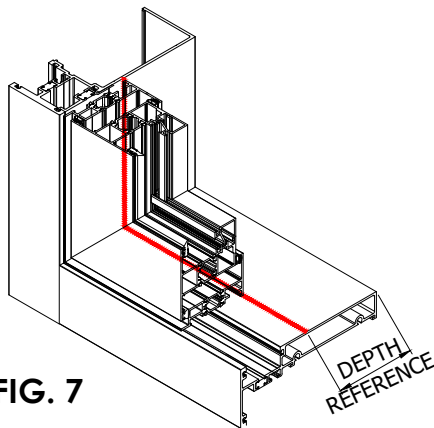

FIG. 7
- b. Position window frame in the opening, use **FIG. 7** as guide.